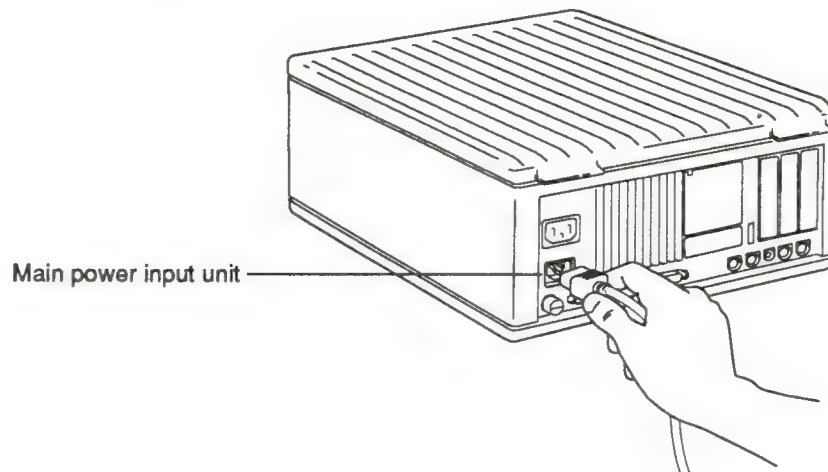

Figure 20. Plugging in the power cord
1. Plug the power cord into the main power input unit, which is below the power switch on the back of the Macintosh IICx, as shown in Figure 20.